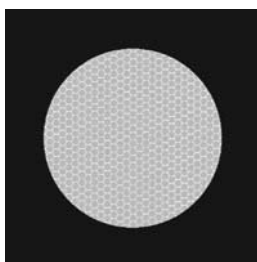

Figure 3-6. Fixed-Pattern Noise
(3) Black Spots. These are cosmetic blemishes in the image intensifier, or dirt or debris between the lenses. Black spots are acceptable as long as they do not interfere with the operator's ability to view the image. No action is required if this condition is present, unless the spots interfere with the operator's ability to view the image or to perform the mission.
(4) Fixed-Pattern Noise. This is usually a cosmetic blemish characterized by a faint hexagonal (honeycomb) pattern throughout the viewing area. This most often occurs when operating in highly lit environments or when viewing very bright lights (see Figure 3-6). This pattern can be seen in every image intensifier if the level of light is high enough. This condition is acceptable as long as the pattern does not interfere with the operator's ability to view the image or to perform the mission.